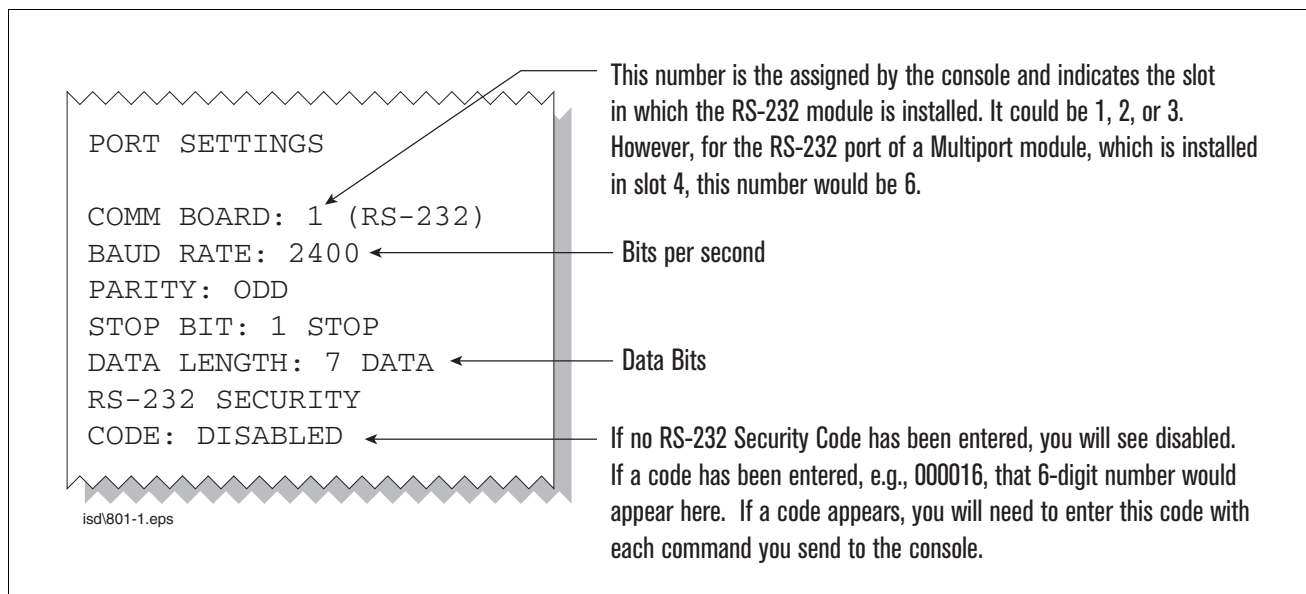

Figure 11. Console comm port settings printout example
- d. Press the PRINT key to printout the port settings for all communication modules installed in the console. Figure 11 shows an example port settings printout with the RS-232 module installed. Using the console port settings in the example below, your HyperTerminal 'Port Settings' window entries would be Bits per second - 2400, Data bits - 7, Parity - Odd, Stop Bits - 1. For the 'Flow Control' entry select None. Click OK.